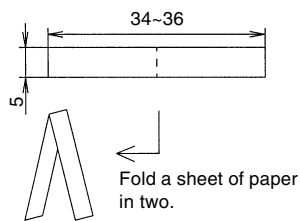
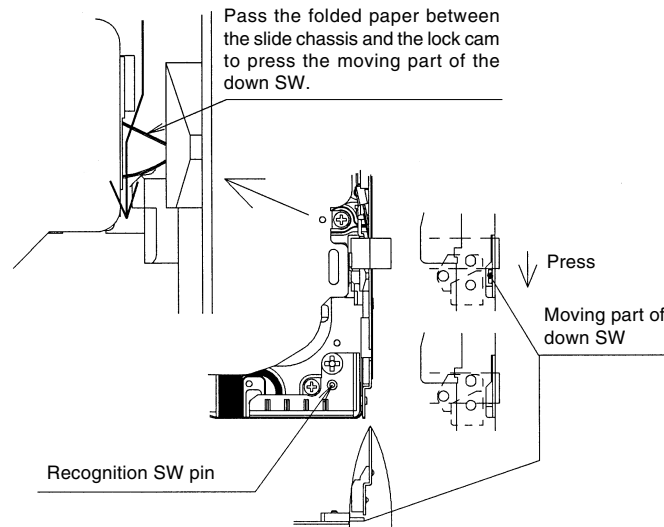

Fig.9
Fig.10
- (1) Apply 3 to 4V DC to the loading motor to establish the standby mode.
- (2) Insert a sheet of thick paper folded in two as shown in Fig.9 into the position shown in Fig.10 to turn OFF the down SW.